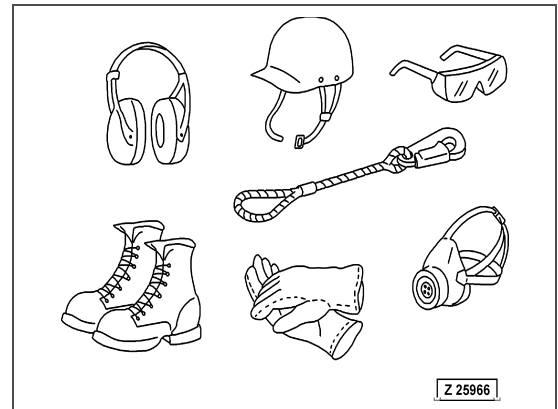

Fig. 3-2
- Always wear a hard hat and safety shoes when working on the machine outside of the cabin. If the nature of the work requires it, wear safety glasses, mask, gloves, ear plugs and a safety belt when operating or maintaining the machine (Fig. 3-2).